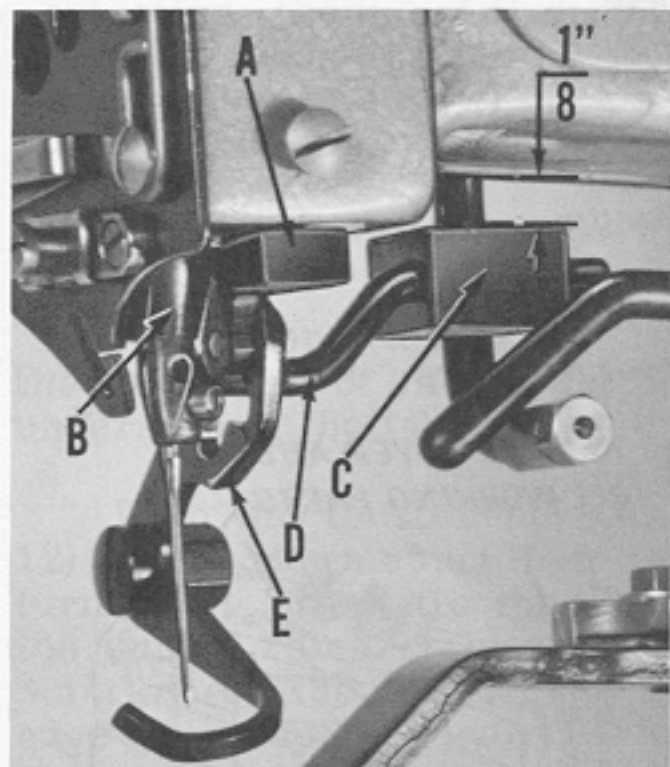
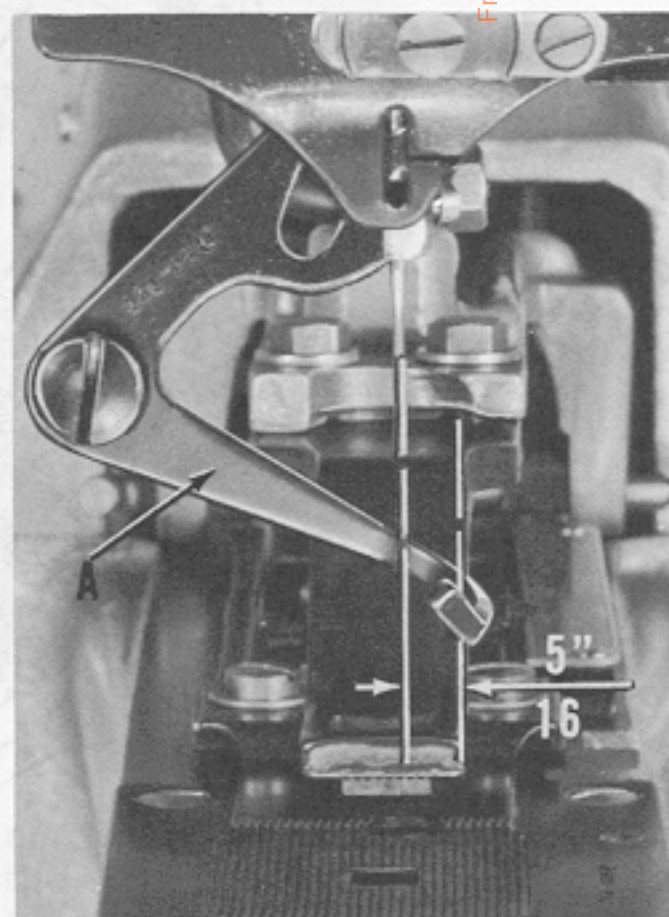

Fig. 13
Fig. 14
The thread wiper mounting bracket (A, Fig. 13) should be up tight against the bed casting and also against the rear of the needle bar bushing (B).
With the machine in "STOP POSITION", there should be at least $\frac{1}{8}$ inch clearance between the top of the thread wiper drive lever bracket (C) and the arm casting (Fig. 13). The wiping portion of the wiper arm hook (A, Fig. 14) should be approximately $\frac{5}{16}$ inch to the right of the centerline of the needle (Fig. 14). The wiper arm hook (A, Fig.